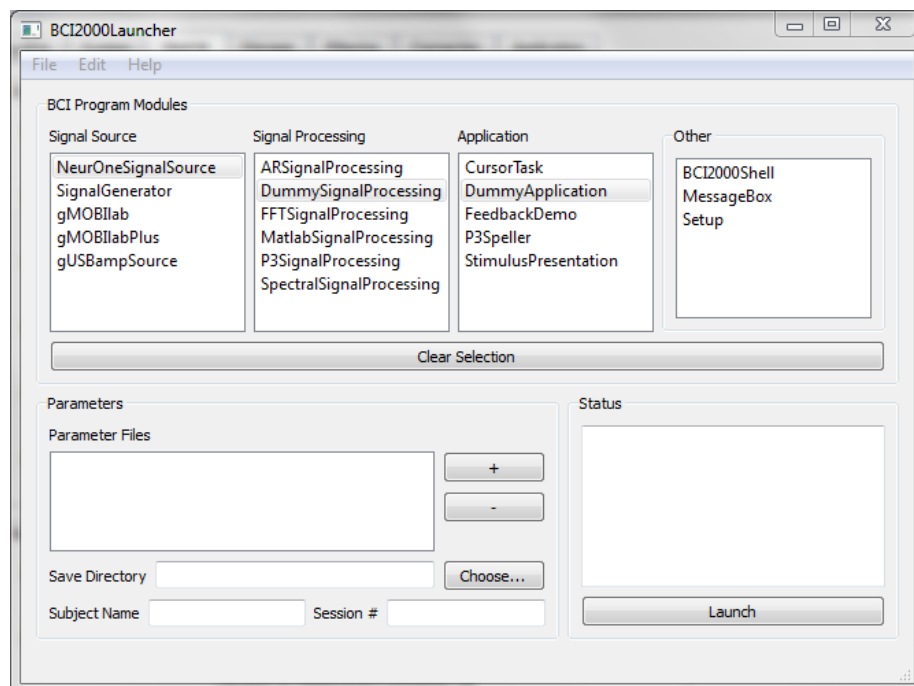

Figure 1. Initial view of BCI2000Launcher with NeurOne Signal Source installed.
1. Open BCI2000Launcher and check that you see NeurOneSignalSource in the left-most list of BCI Program Modules, see figure 1. Add a parameter file with the [+] button and navigate to `D:\BCI2000\parms\fragments\amplifiers`. Click Launch.